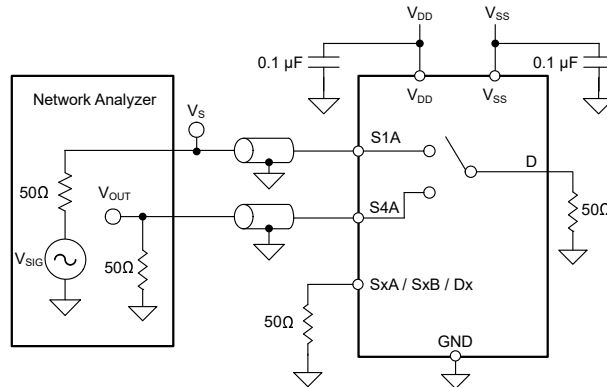

图 6-11. Crosstalk Measurement Setup
Crosstalk is defined as the ratio of the signal at the drain pin (D) of a different channel, when a signal is applied at the source pin (Sx) of an on-channel. 图 6-11 shows the setup used to measure and the equation used to calculate crosstalk.